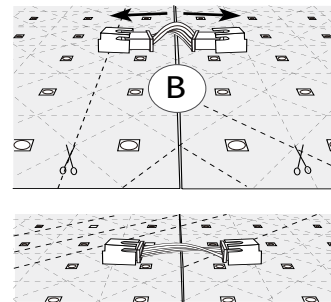

Figure 2
When connecting Light Sheets that are already mounted to a fixed surface, the short connection wires (B) will need to be shaped as shown in Figure 2 prior to pushing into connection blocks. Best practices include using two sheet-to-sheet connection wires for all adjacent Light Sheets in each Class 2 circuit to minimize voltage drop. Dry-fit test for proper illumination prior to mounting Light Sheets to the mounting surface and again before the forward facing material is installed.